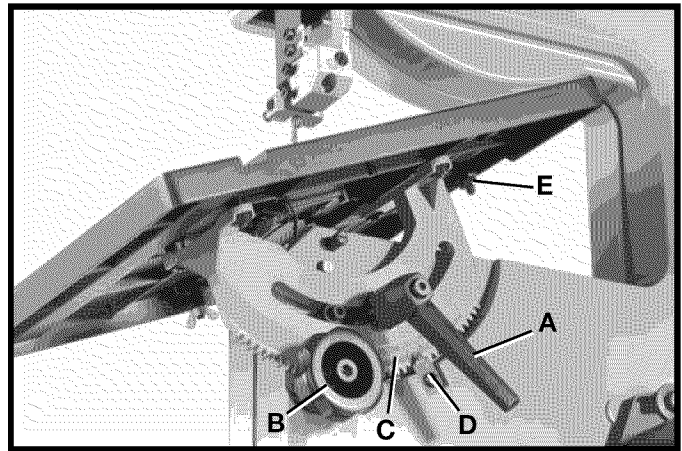
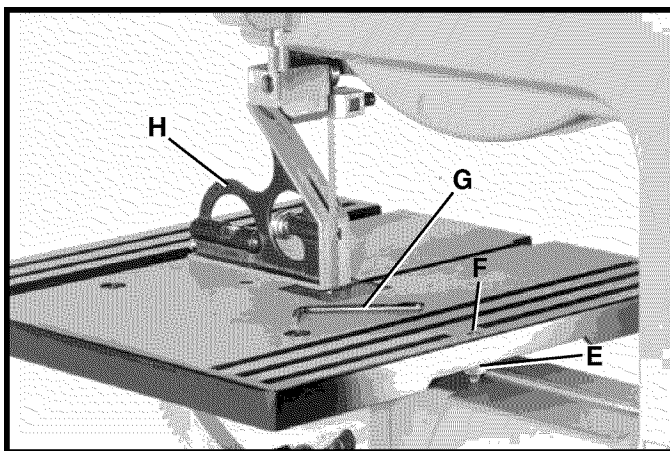

Fig. 31
Fig. 32
1. The table can be tilted 45 degrees to the right. To tilt the table, loosen lock handle (A) Fig. 31, and turn knob (B) clockwise until desired angle is established. Then tighten lock handle (A). **NOTE:** The table lock handle (A) can be repositioned by pulling out on the handle and repositioning it on the nut located underneath the hub of the handle. A scale (C) and pointer (D) are provided to indicate the degree of tilt.
1. Tilt the table to the 90 degree position as shown in Fig. 32, and tighten lock handle (A) Fig. 31. Place a square (B) Fig. 32, on the table and against the blade and check to see if the blade is 90 degrees to the table surface. If an adjustment is necessary, proceed as follows:
2. Tilt the table slightly as shown in Fig. 31, to expose lock nut (E). Loosen lock nut and return table to the 90° position. With the lock handle (A) loose, turn adjusting screw (F) Fig. 32, using the wrench (G) provided until the blade is 90 degrees to the table. Then tighten lock nut (E) Fig. 32, and lock handle (A).